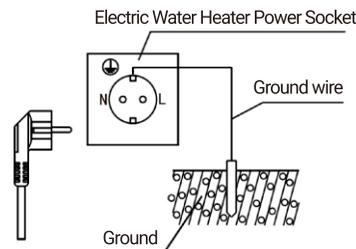

Figure 5
- (9) After confirming that the rated values of electricity meters, wires, switch sockets and fuses in the power supply system meet the power consumption requirements of this product, connect a separate power socket at an appropriate position to supply power to the electric water heater (as shown in Figure 5). The installation height of power socket from the ground shall not be less than 1.8m.
- (10) After confirming that the rated values of electricity meters, wires, switches, sockets and fuses in the power supply system meet the power consumption requirements of this product, connect a separate power socket at an appropriate position to supply power to the electric water heater (as shown in Figure 5). The installation height of power socket from the ground shall not be less than 1.8m.